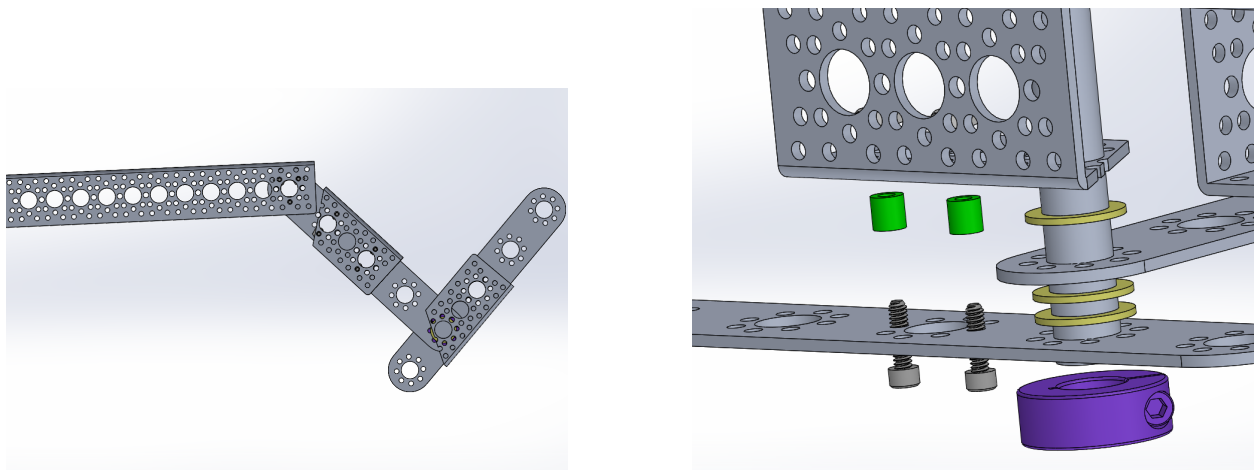

Figure 4: Start Rocker-Bogie pivot joint
1. **Begin the Rocker Attachment:** Attach 9 inch channel **S5** and the a modified 3 inch channel **S2A** to pattern F bracket **S7** using screws **B2** and hex nuts **B11** making sure to put a 6-32 washer **W1** in between the channels and the bracket. Make sure that the cut modification in **S2A** is angled towards the 9 inch channel as shown in Figure 4.
2. **Start the Bogie pivot joint:** Put rod **S18A** through the last hole in the pattern F bracket. Then, assemble the pivot joint by attaching another modified 3 inch channel **S2A** and another pattern F bracket using washers **W3**, collar clamp **S22**, standoffs **T2**, and screws **B3**. Make sure to use the 2nd from the bottom hole on the 2nd pattern F bracket. See Figure 4: